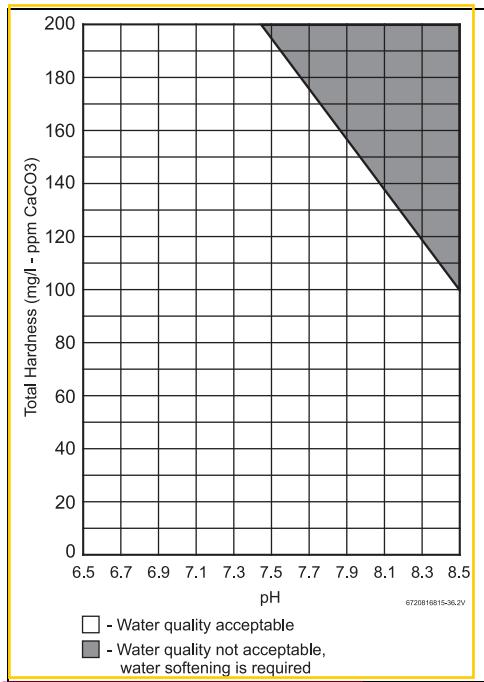

Fig. 26 Water total hardness and pH values
Water quality can have an impact on appliance longevity. Water supplied to the Greentherm T9900 SE/i must be in accordance with table 17 and fig. 26.
For water analysis data call your local water department, or if on a well, have well water analyzed periodically. Heavy scale will form if the combination of water total hardness and pH exceeds the values specified in fig. 26 (grey area). Bosch recommends consulting a local water treatment professional for water softening/conditioning options.
1. Total Harness and pH maximum values must be evaluated in combination. Indicated maximum values will be reduced according to fig. 26.